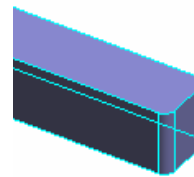

Figure 34. Rounded edges on handle end.
70. Select the top and bottom edges of the end of the handle and round them to a radius of $\frac{1}{4}$ ". This is shown in figure 34.